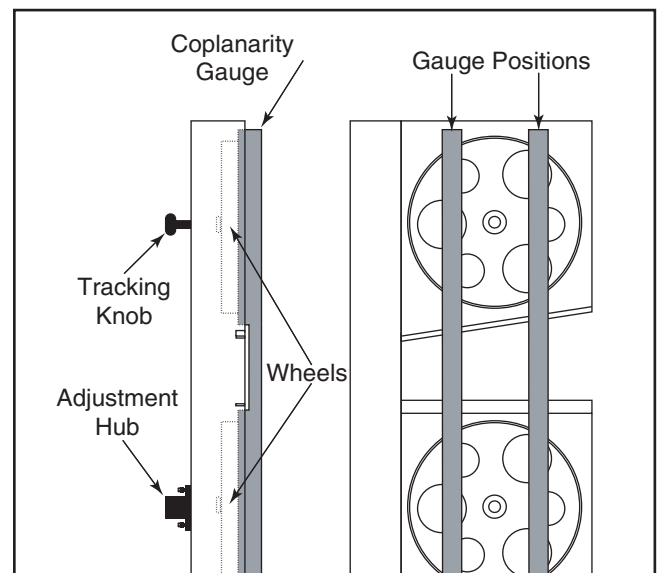

Figure 108. Checking for coplanarity.
7. Place your coplanarity gauge up against both wheels in the positions shown in **Figure 108**.